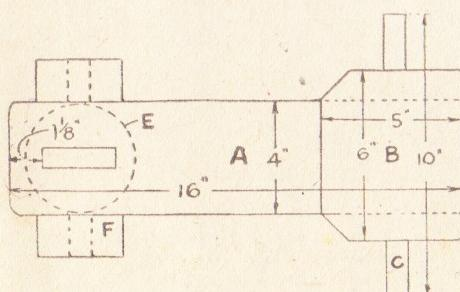

Fig. 2—Plan of platform and axles
The next piece to cut will be piece (B), and this measures 6ins. by 5ins.; two corners will be trimmed away, as shown in the plan Fig. 2. This piece may be of either $\frac{1}{2}$ in. or $\frac{3}{8}$ in. stuff, and is glued and screwed to the end of piece (A).